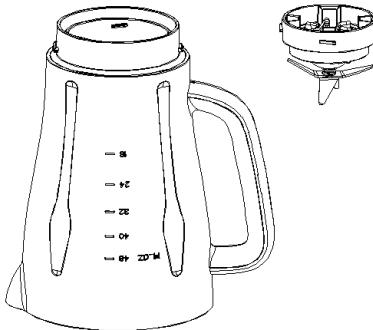

Fig.8A
5. When dis-assembly the grinding cup and chopper components, please take out the grinding cup and chopper components from motor base firstly, then detach the grinding cup cutter head components and chopping cutter head components from the grinding cup by clockwise turning, and finally remove the seal ring and cutter head assembly (see fig.8A).